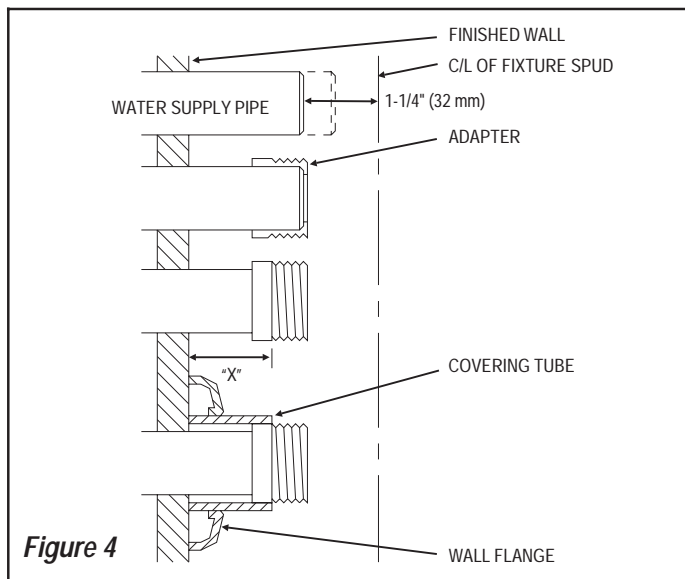

Figure 4
For Sweat Solder applications, refer to the following instructions and Figure 4:
- Determine length of Covering Tube by measuring distance from finished wall to the first thread of Adapter (dimension "X" in Figure 4). Cut Covering Tube to this length.